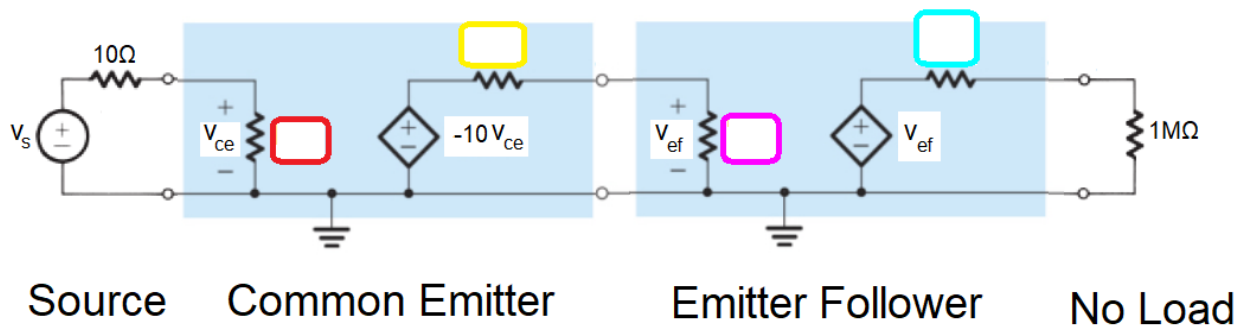

Figure 7: The Audio amplifier with a very high load resistance that models no load.
Since our analysis will break down if we do not have a load resistance, we will model an open circuit output as a $1M\Omega$ resistor as shown in Figure 7. In this analysis assume a value of $\beta = 100$.
1. Fill in the values of the resistors shown in Figure 7.
We will model the speaker as an 8Ω resistor as shown in Figure 7. In this analysis assume a value of $\beta = 100$.